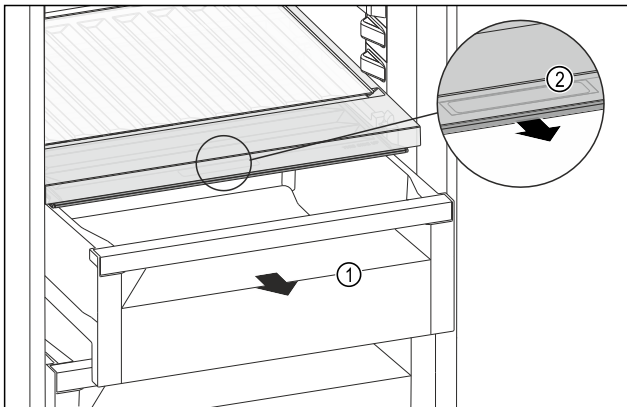

Fig. 217
- ▶ Pull out the drawer Fig. 217 (1).
- ▶ Grasp the recessed grip Fig. 217 (2) on the compartment lid and pull the compartment lid forwards at the same time.